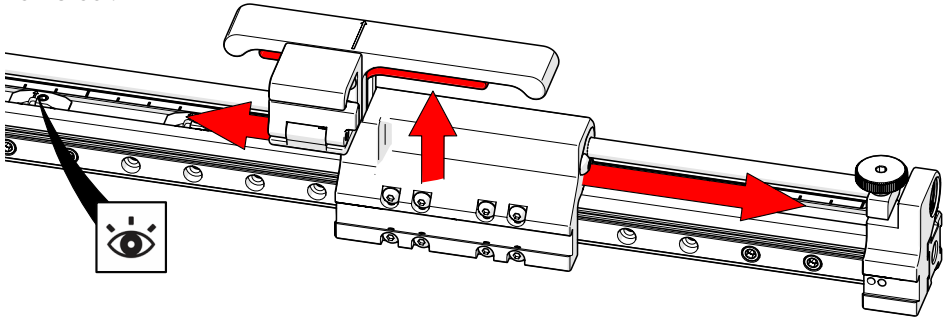

Fig. 28 - Carrier handle latch
2. Press the latch on the carrier handle to position the carrier to the next index location (Fig. 28).